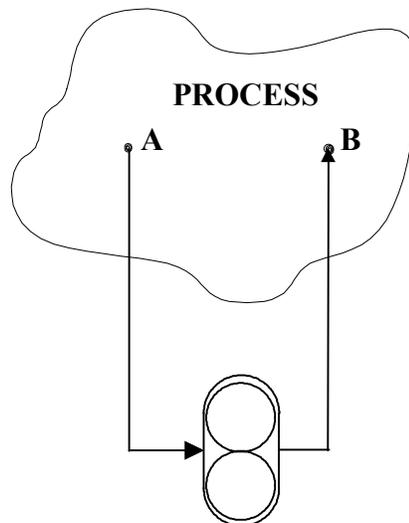

Fig. 2-1.A Gear Pump and a Process
**INTRODUCTION.** The positive displacement pump is in some ways an even simpler device to control than the centrifugal pump discussed previously1. It has the same function, namely to provide the pressure necessary to move a liquid at the desired rate from point A to point B of the process. Figure 2-1 shows a "generic" process with a positive displacement pump (in this case a gear pump) connected to deliver liquid from A to B.